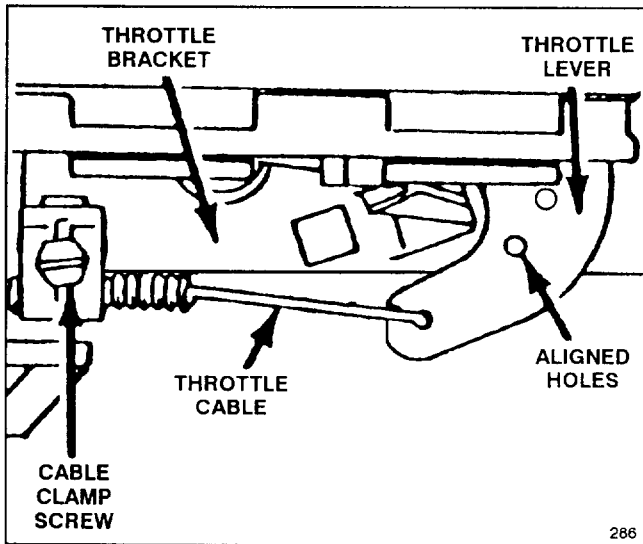

Figure 15
3. Loosen cable clamp screw until throttle cable slides (Fig. 15).
4. Move throttle cable left or right until holes in throttle lever and throttle bracket align (Fig. 15).